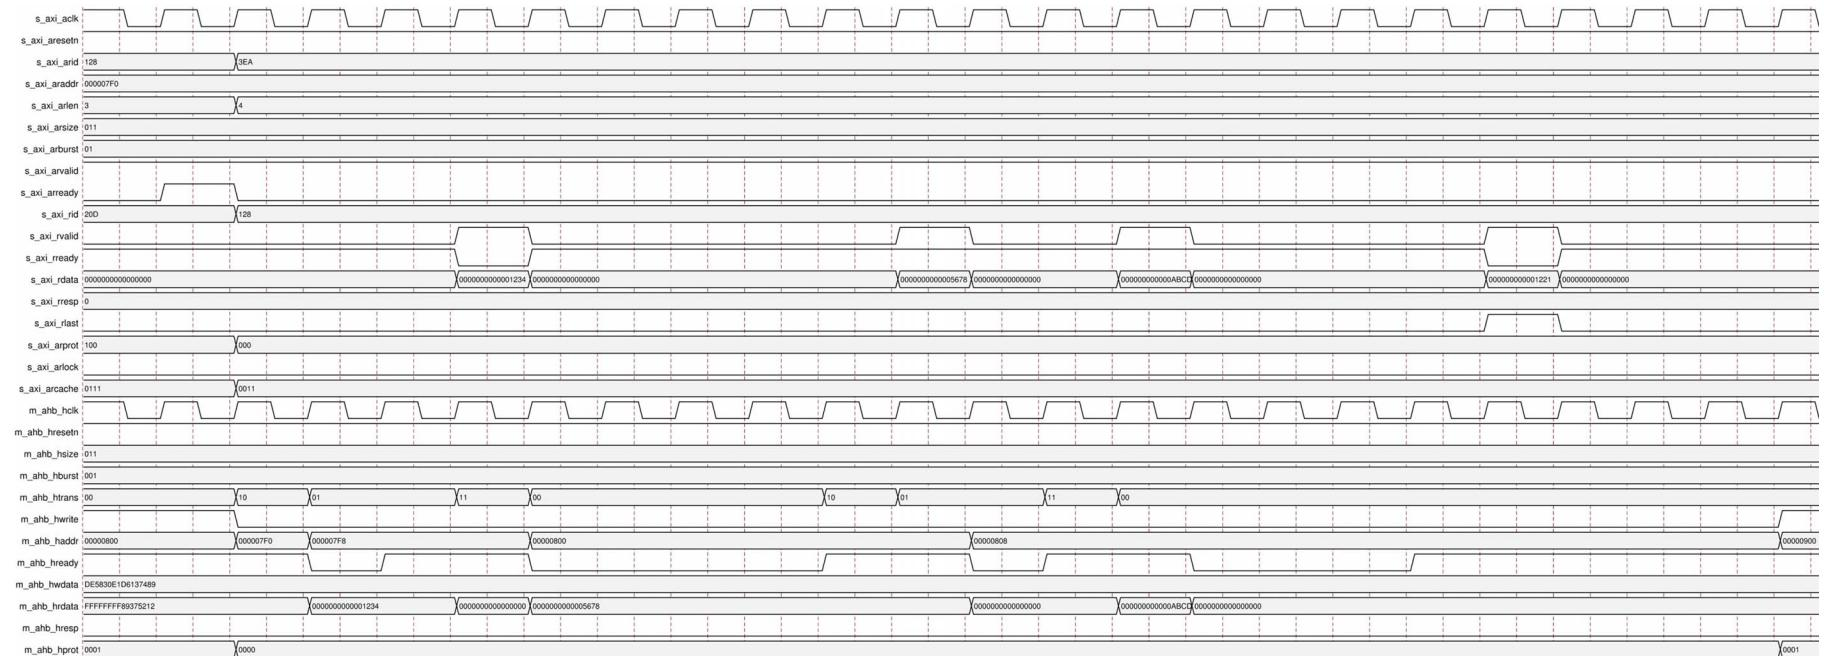

Figure 3-12: AXI4 Burst Read Transfer of Length 4 That Crosses 1 KB Address Boundary on AHB-Lite
12. AXI4 burst read transfer of length 4 that crosses the 1 KB address on the AHB-Lite is shown in Figure 3-12. One AXI4 read transfer is split into two AHB-Lite read transfers as the 1 KB boundary is crossed.